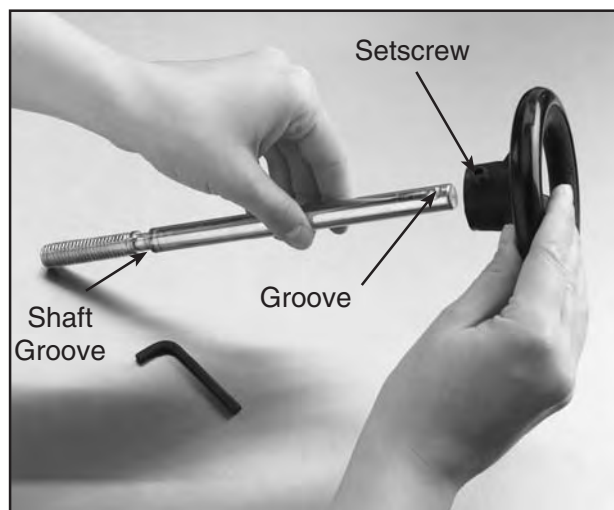

Figure 12. Wheel onto adjustment guide.
The wheel shown in **Figure 12** fits on the adjustment shaft. This locks in place by tightening the setscrew into the groove on the shaft. There is a threaded hole on the wheel that allows for the optional installation of a crank (not included).
3. Insert the adjustment guide into the screw bracket. Line up the shaft groove shown in **Figure 12** with the center bolt and screw the bolt into the groove as shown in **Figure 14**. Do not completely tighten the bolt. This will allow the shaft to spin without coming out.